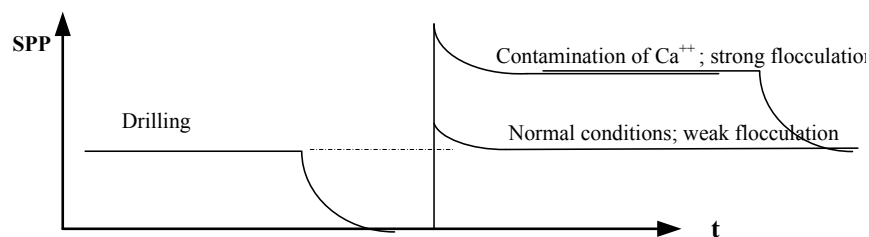

Figure 1-8c: Rheological response at the surface when drilling into contaminants.
- c) The edge-to-face flocculation is weak electrostatic forces and is easily broken when sheared. The Ca^{++} ion binds two clay platelets in a much stronger grip, and is not easily broken as indicated in Figure 1-8c.